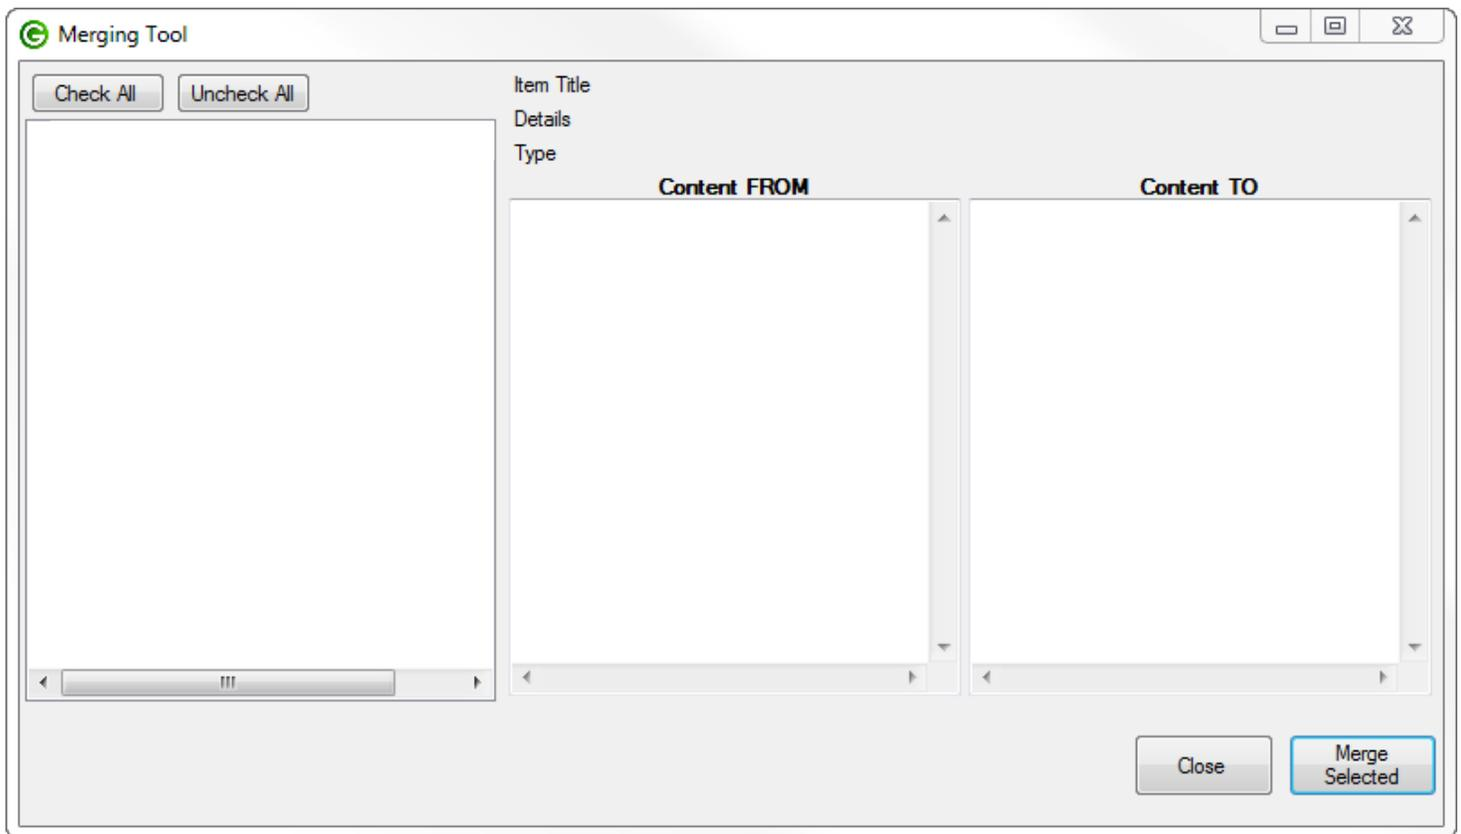

Figure 120: Everything Blank Showing No Differences.
**Figure: 120** shows a merge with all three columns completely blank meaning no differences remain. The data in the “Content TO” XML data file is the same as data in the “Content From” data file.